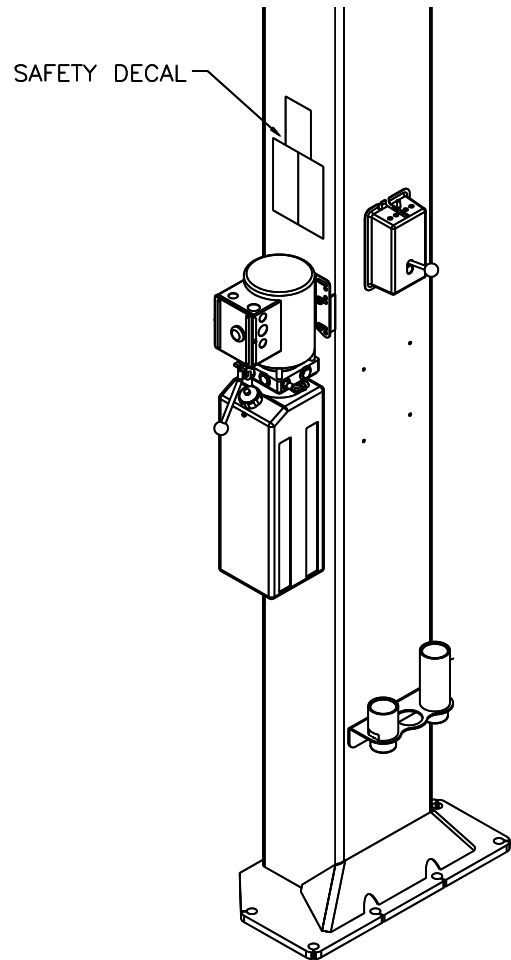

Fig. 23-Safety Decal Placement
- 64) Clean surface of the rear column above the power unit and install Safety Decals, **Page 3** and **Fig. 23**.